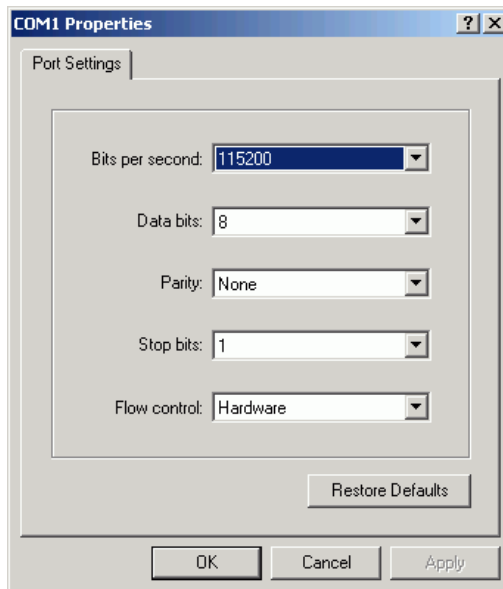

Figure 2-27 COMn Properties Dialog Box
7. Ensure the *Connect using* field displays **COM1** or **COM2** (depending on the serial communication port connection to the switch), and click *OK*. The *COMn Properties* dialog box displays, where *n* is 1 or 2 (Figure 2-27 on page 2-44).